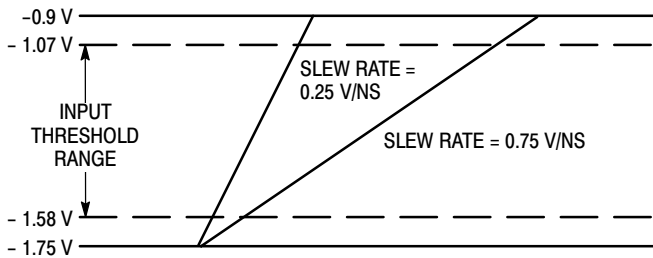
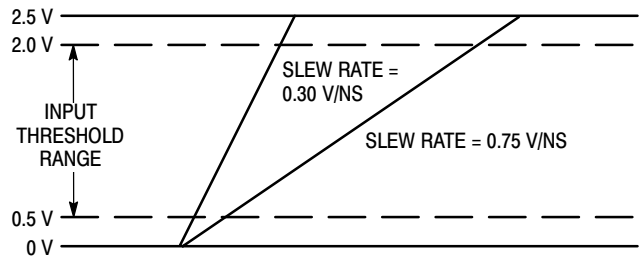

Figure 4. ECL Dispersion Test Input Conditions
Figure 5. TTL Dispersion Test Input Conditions
- Refer to figure 4 and note that the input is at 850mV ECL levels with the input threshold range between the 20% and 80% points. The delay is measured from the crosspoint of the input signal and the threshold value to the crosspoint of the Q and $\bar{Q}$ output signals.
- Refer to Figure 5 and note that the input is at 2.5 V TTL levels with the input threshold range between the 20% and 80% points. The delay is measured from the crosspoint of the input signal and the threshold value to the crosspoint of the Q and $\bar{Q}$ output signals.
Figure 4 and Figure 5 define a range of input conditions which incorporate varying input slew rates and input voltage overdrive. For input parameters that adhere to these constraints the propagation delay can be described as: